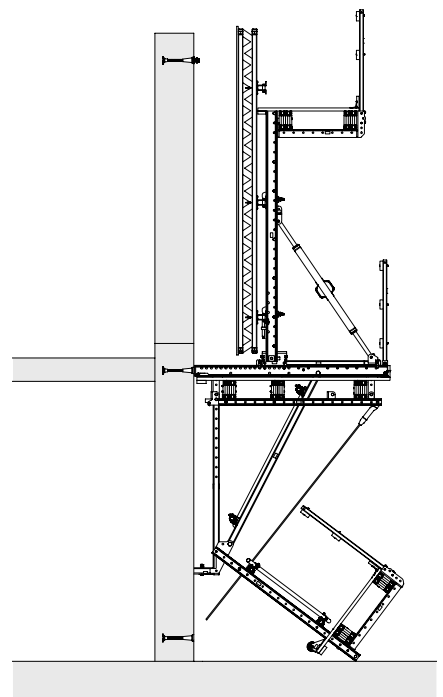

Fig. 10
6. Connect the finishing platform, see Section B2. (Fig. 10)